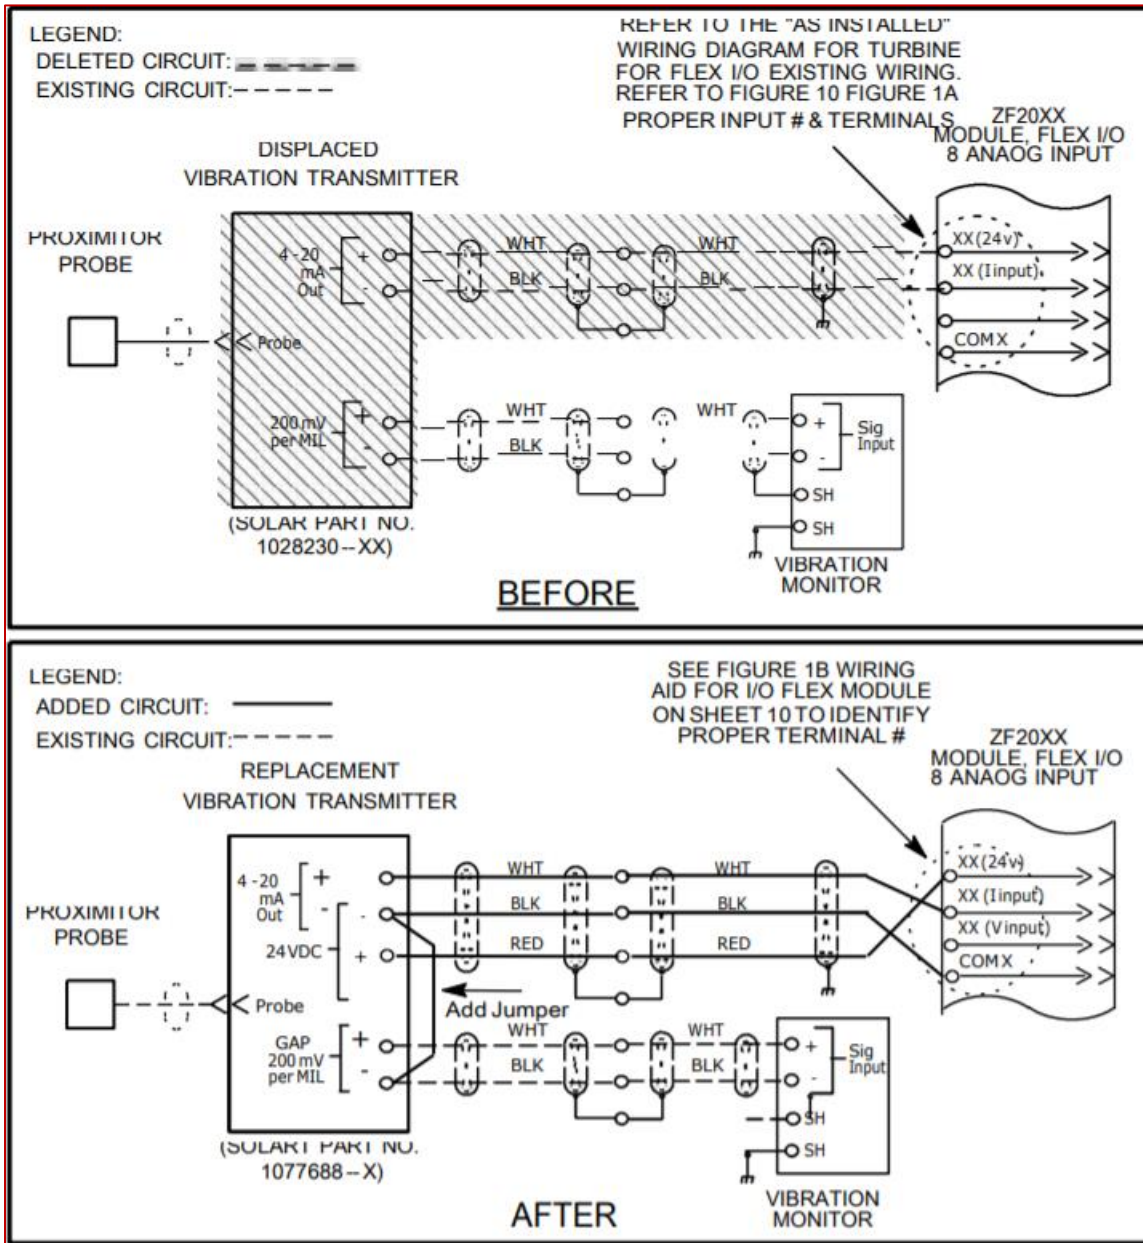

Figure 10. Wiring modifications necessary for the new vibration transmitters.
- With the new transmitters, some wiring modifications needed to be made because a power cable was required for the new models. This is shown in Figure 10.